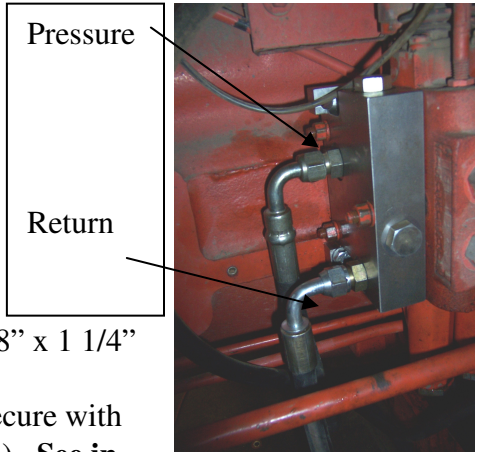

Fig 1-1
2. Attach the new end block (Part #15) with two plugs (Part #23) to the valve on the left side under the cab. Use the existing nuts and lock washers. **See in Fig. 1-1.**
9. Route the 48" and 60" hoses (Part #13 & 14) underneath the tractor cab and attach to the proper ports on the manifold block already installed on the back of the tractor. See instruction sheet for proper connections. **See in Fig. 1-1 and Fig 1-2.**